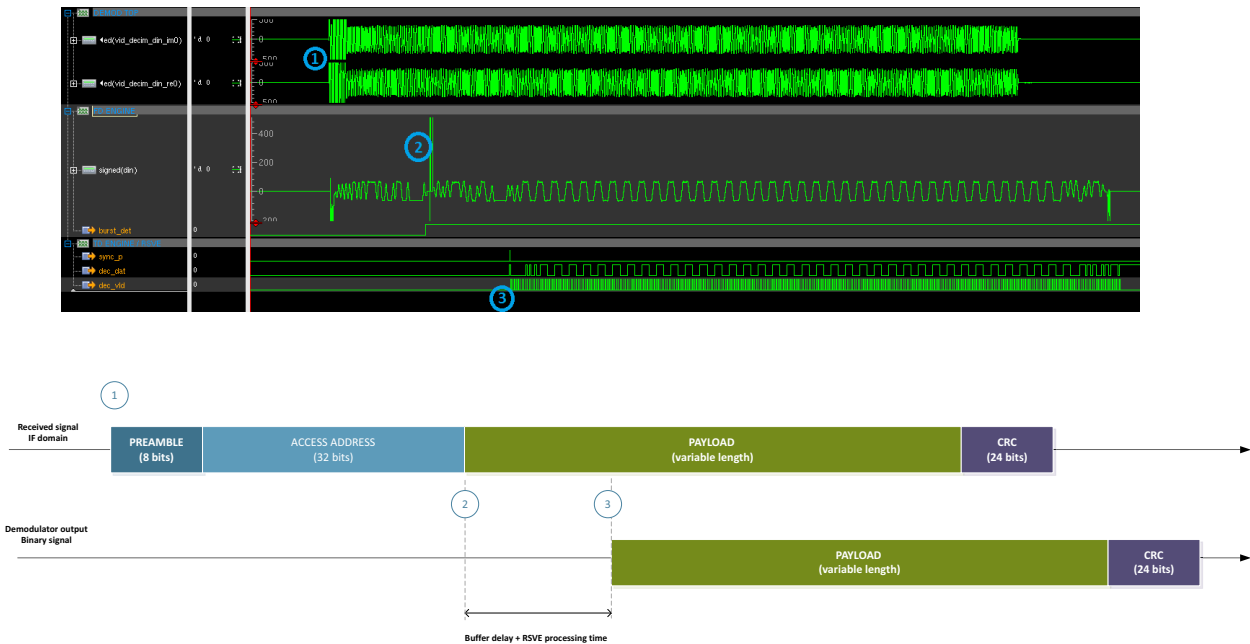

Fig 130. Demodulator operation
During the frame reception (see Figure 130: demodulator operation):
- Decoded data are sent to the link layer. Note that only frame payload and CRC bits are sent to the link layer (see Figure 130 “Demodulator operation”).